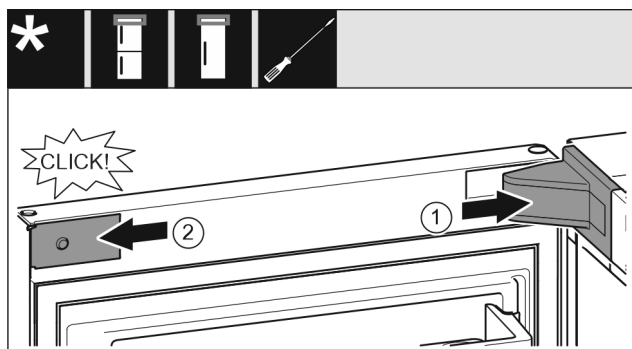

Fig. 27
- ▶ Put the swap bearing block cover Fig. 27 (1) on and engage, push apart carefully if required.
- ▶ Place the trim Fig. 27 (2) on the side and engage.